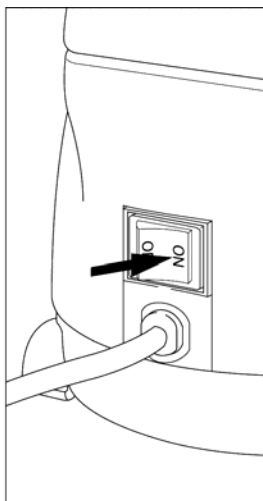

FIGURE 13
3. Switch Lighted On/Off Switch to "On" position (FIGURE 13).